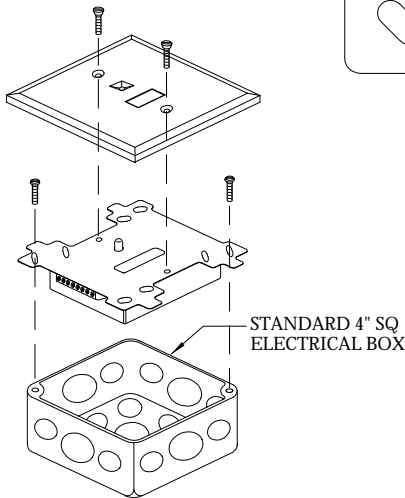

FIGURE 2
The (CZM) Conventional Zone module is mounted as shown in Figure 2 on page 2 of this instruction.
- 2) Secure the module to a U.L. listed electrical box (supplied by installer), as shown in Figure 2.